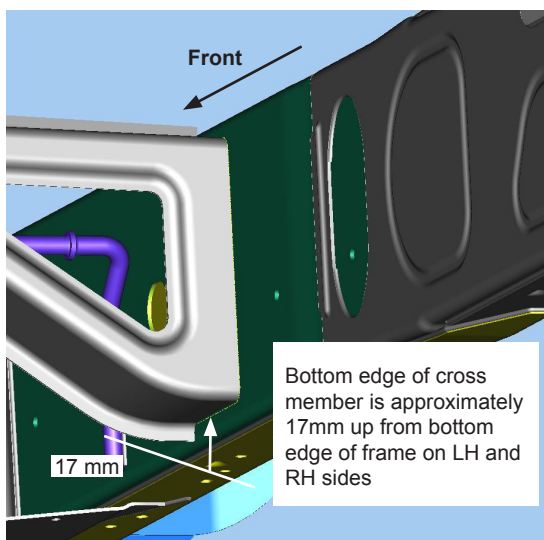

Figure 3
3. Locate Crossmember on LH and RH sides, 17 mm up from bottom surface of frame and bottom edge cross member as shown. Figure 3.